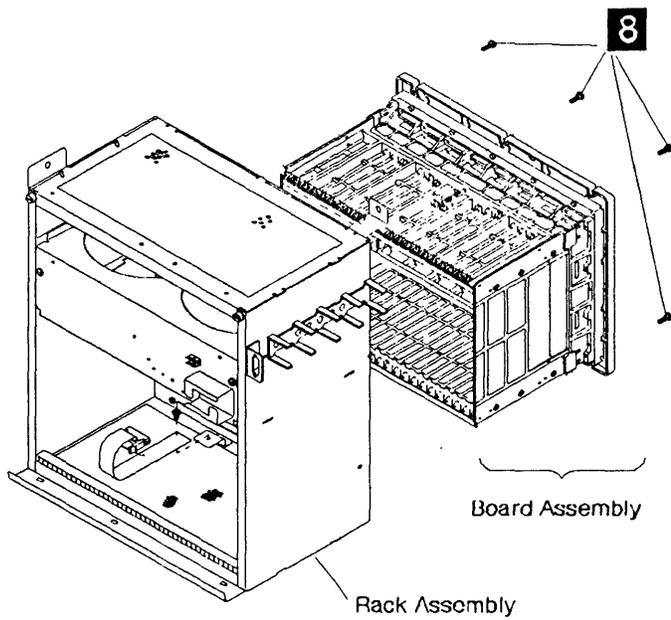

Figure 4-103. Basic Assembly 1
to Figure 4-103. Remove the board assembly.
4. Install the board assembly on the rack assembly and fasten it with the 6 screws **8**. Refer to Figure 4-103 on page 4-74.